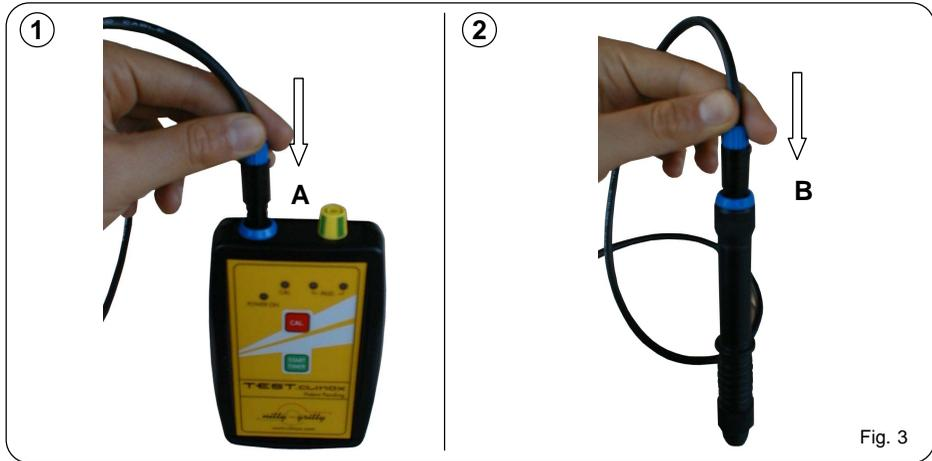

Fig. 3
- 1 Connect the pen's cable to the instrument by putting the plug into the appropriate socket (A, Fig. 3).
- 2 Plug the other end of the cable into the appropriate socket (B, Fig. 3) on the ec-pen.